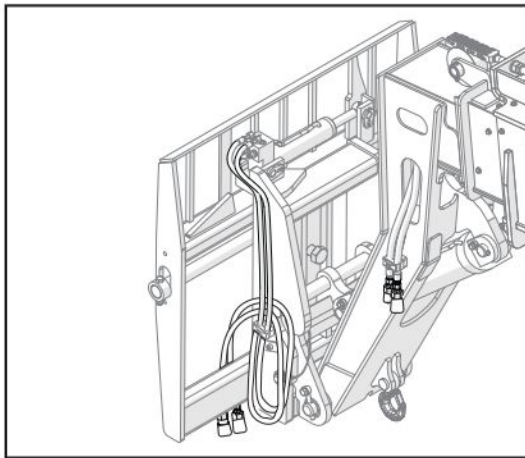

Figure 46 Hydraulic Hoses
6. Secure the carriage hoses between the carriage and the platform as shown in figure 46.